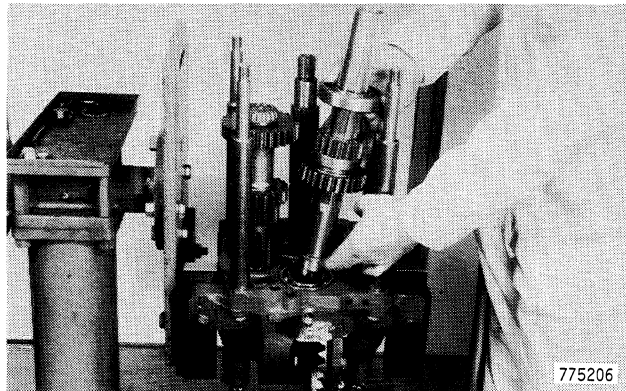

Figure 258
44. Remove input shaft, Figure 258.